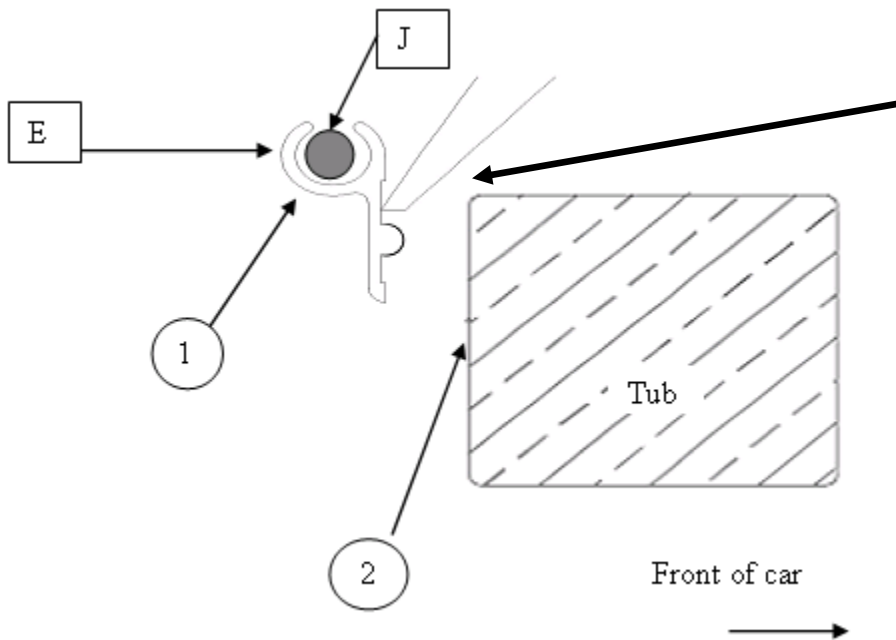

Figure 1
1. Place the 2 pieces of dowel in the ends of the rope track. Ensure the flat side of the rope track is the surface positioned against the tub face. See Figure 1 pg 2. With the Dowels insert approx 50% in to the rope track ends rest the aluminum rope track on the side rails.